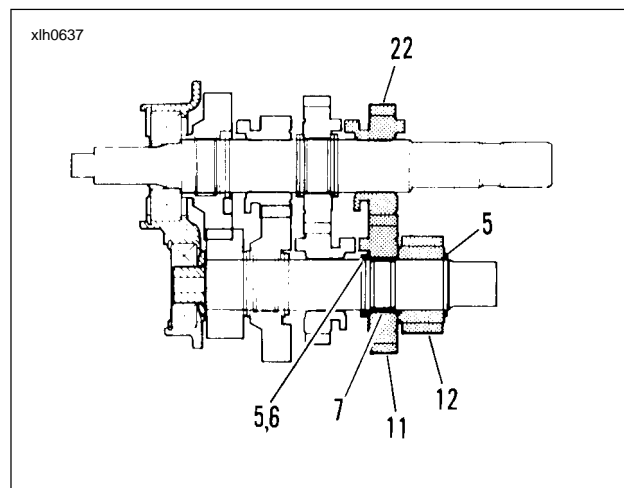

Figure 6-47.
14. See Figure 6-47. Install retaining ring (5) and thrust washer (6) on countershaft. Install split bearing (7) into seat next to thrust washer (6).
15. Install countershaft 2nd gear (11) over bearing (7).
16. Install mainshaft 2nd gear (22) onto shaft. The shifter fork groove must face the access door.
17. Install shouldered countershaft 5th gear (12). The single radial groove must face away from the access door.
18. Expand retaining ring (5) and slide into groove next to countershaft 5th gear (12).